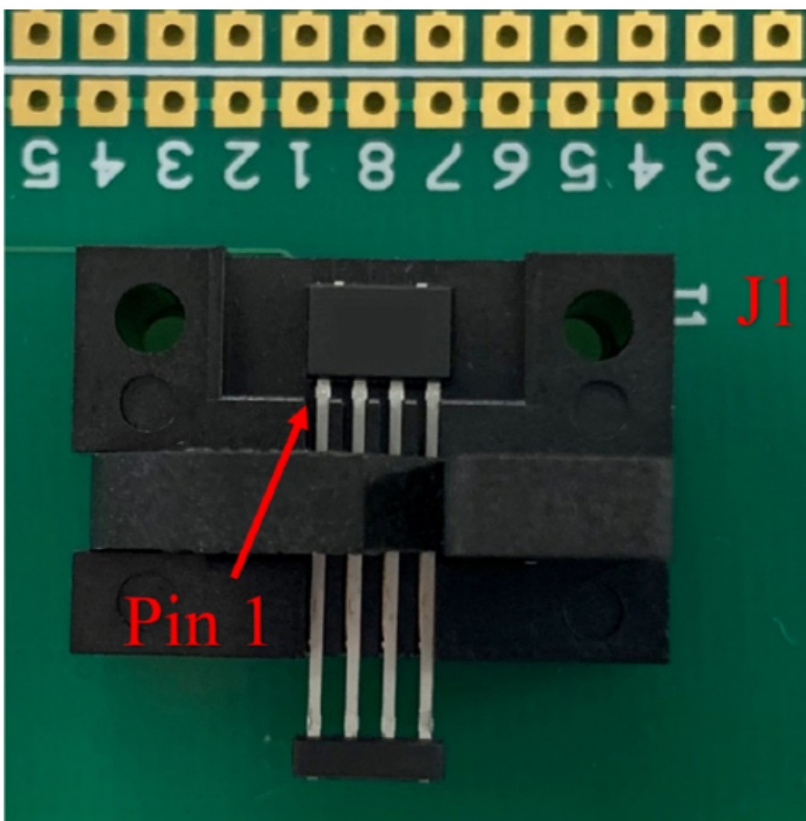

Figure 11: ACS70311 in "J1" socket
4. See Figure 11 showing the ACS70311 in “J1” socket.